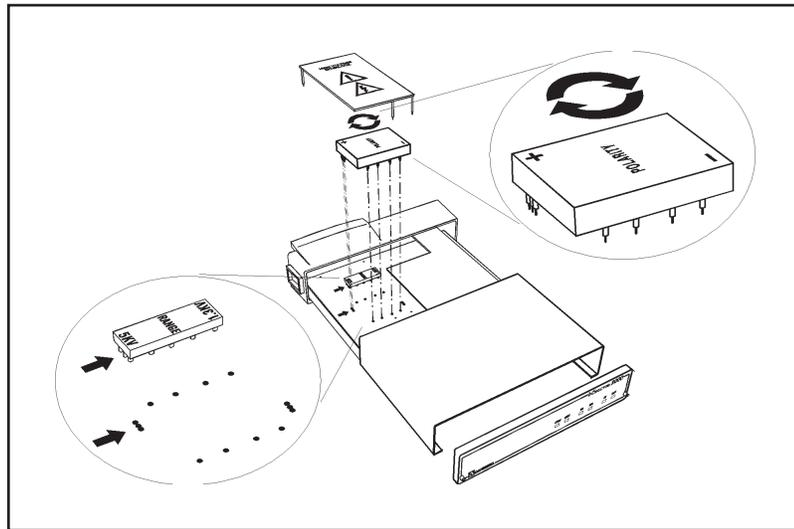

Figure 50 Changing the High Voltage Polarity
2. To change the HV Polarity, carefully grasp the HV Polarity Module and remove by lifting up and away from the Main HV board. Rotate 180 degrees so that the (+) polarity marking is positioned toward the polarity identifier arrow on the printed circuit board, see Figure 50. Carefully reinstall the high voltage Polarity Module into the printed circuit board. Make certain the Polarity Module is aligned and fully engaged with the associated connector pin sockets on the high voltage board.